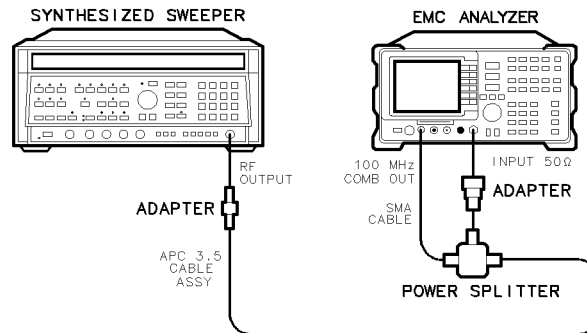

Figure 2-3. Comb Generator Frequency Accuracy Test Setup
1. Connect the equipment as shown in Figure 2-3.